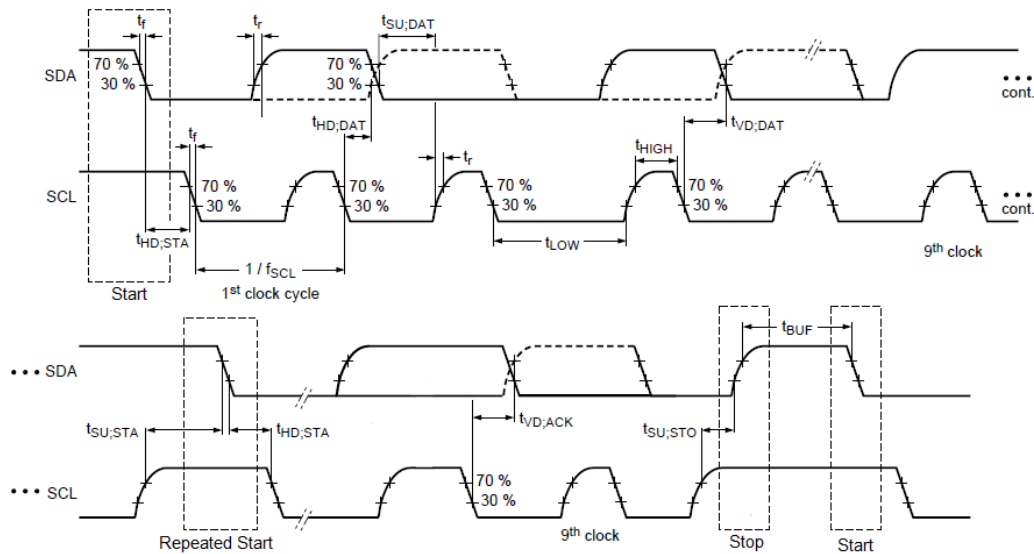

Figure 56. I2C Timing Waveform
**Note:** In I2C mode, the serial data and clock have an on-chip 25 k $\Omega$  pull up resistor to VDDIO. Please refer Figure 56 for the nomenclature of these parameters.